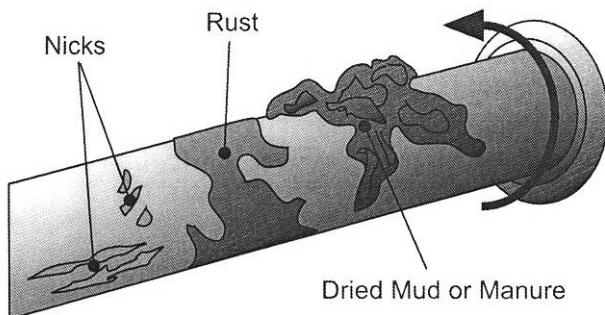

Figure 3. These conditions can cause clothing to wrap around a PTO driveline.
- **Wrap (entanglement) points** — any exposed rotating component, including any type of rotating shaft or driveline. PTO drivelines are prime examples of wrapping or entanglement hazards (Figure 3).